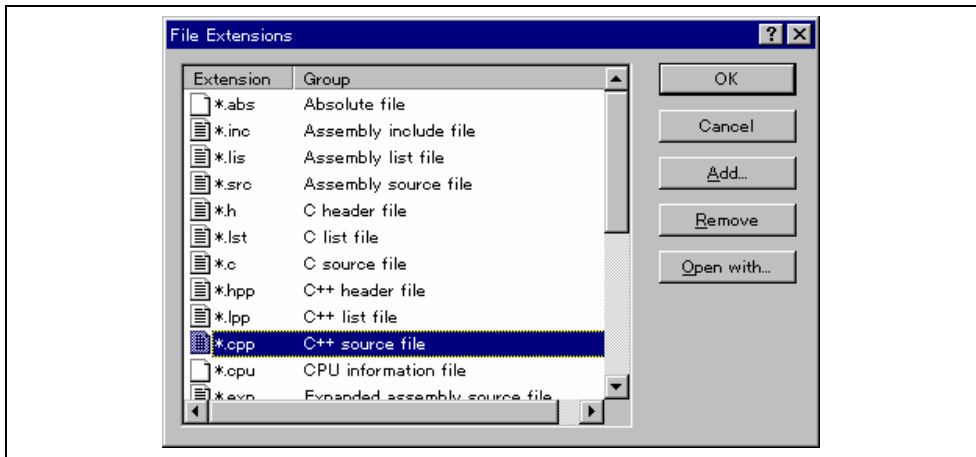
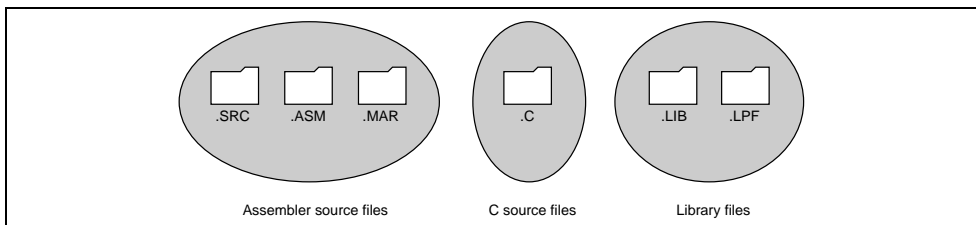

Figure 2.7: File Extensions Dialog
Figure 2.8: File Extensions and Groups
File extensions and file groups can be viewed and modified via the “File Extensions” dialog (figure 2.7). This is invoked by selecting [Project->File Extensions...]. This dialog displays all of the extensions and file groups, which are defined within the current workspace.
The “File Extensions” list shown in figure 2.7 is divided into two columns. On the left are the file extensions themselves, whilst on the right are the file groups. Many file extensions can belong to the same group. For example, assembler source files may have several extensions in a single project (e.g. .src, .asm, .mar etc) as shown in figure 2.8.
1. Select **[Project->File Extensions...]** from the menu bar. The “File Extensions” dialog will be displayed (figure 2.7).
1. Select [**Project->File Extensions...**] from the menu bar. The “File Extensions” dialog will be displayed (figure 2.7).